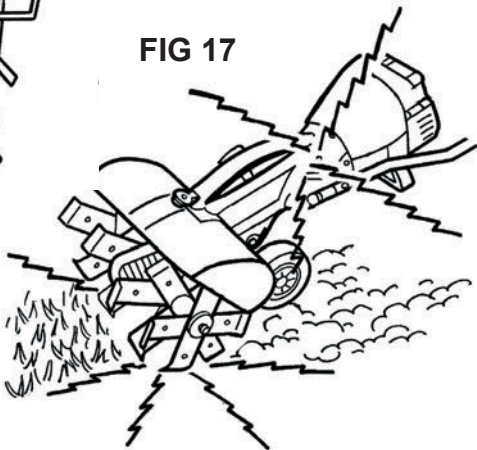

FIG 17
**DO NOT** run tiller at low speeds (or, if jammed, at high engine speeds) as clutch shoes will prematurely wear and cause damage, Fig 17.